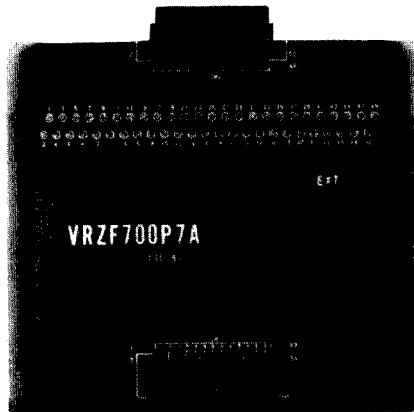

Fig. 1-11
- Extension Board (YWV0EA0158AN) for Modulator Board and Demodulator Board of the WV-PS550 as shown in Fig. 1-11.